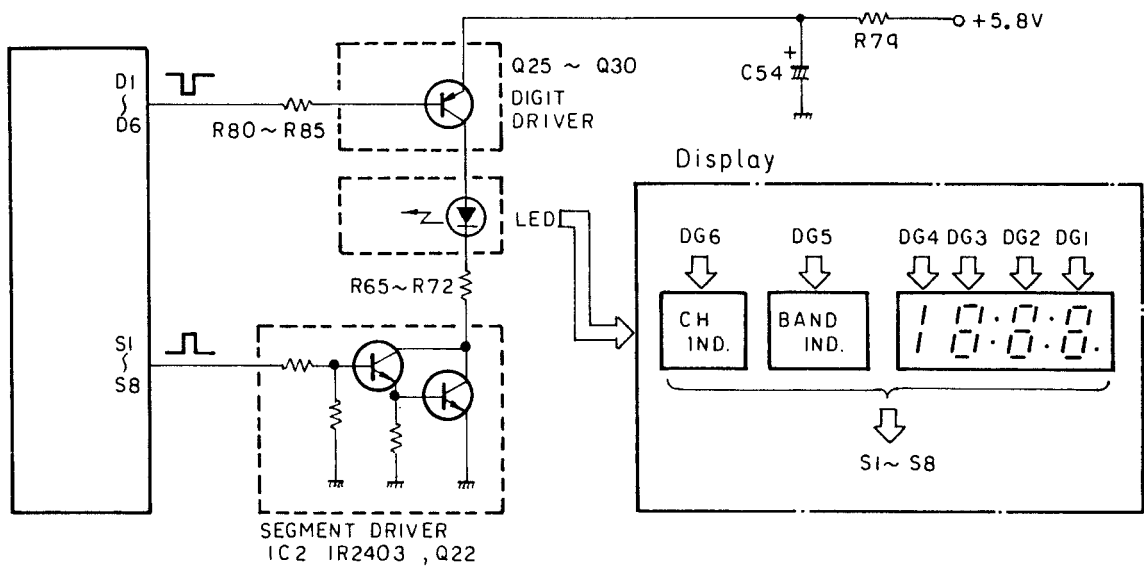

Fig. 7
• Display Control Section (Fig. 7)